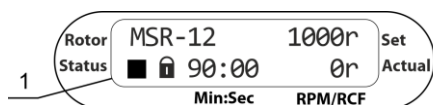
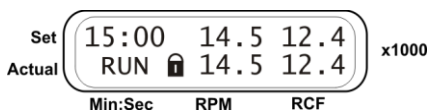

Figure 5. Control panel
Figure 7. Long spin
5.3. The centrifuge switches on, rotor is detected automatically, and the following readouts show on the display (fig 5/1):
5.4. Press the **Open** key (fig. 5/1) and open the outer lid by lifting it upwards by hand. The display shows ■ (see figure 5). The lid can be opened only when the rotor is stopped.
5.8.1. Press and hold the **Run Stop** key (fig. 5/3). After 3 seconds, centrifugation starts. Display changes:
5.8.2. Release the **Run Stop** key to stop. Rotor spins down and display shows blinking ■ when the rotor is winding down, steady ■ when the rotor stops, accompanied by a short sound signal. Unlock the lid by pressing the **Open** key (fig. 5/5).
5.9.1. Use the ▲ and ▼ **SELECT** keys (fig. 5/2) to choose the parameter to edit. The selected parameter is blinking.
5.9.2. Use the - and + keys (fig. 5/4) to change the selected parameter:
5.9.3. Press the **Run Stop** key (fig. 5/3) to start centrifugation. Blinking ► indication and current speed is displayed in the lower line (fig. 7). The timer in the upper line starts count-down after the set speed is achieved (steady ► indication).
5.9.4. Centrifugation stops automatically after the set time elapses. While braking, display shows blinking ■. A sound signal is emitted after full stop of the rotor. Press the **Run Stop** key to stop the signal. Unlock the lid by pressing the **Open** key (fig. 5/5).
8.2.3. For rotor cleaning: if the centrifuge is switched on, press the **Open** key (fig. 5/1) and open the outer lid lifting it upwards with a hand. If the centrifuge is disconnected from the mains, find the emergency opening slot on the right side of the unit. Insert the pin for unblocking the lid (screwed in rear panel of the unit) into the emergency opening slot and press until the lid opens. Remove the rotor lid by lifting the lid holder up. Hold the rotor with one hand and turn a fixation nut counter-clockwise to release the rotor with the help of wrench included in standard set. Release the rotor and clean it. After cleaning install the rotor, secure it carefully turning the rotor fixation nut tightly. Close the rotor lid and the covering lid as described in **5.7**. Unpower the unit, if necessary.